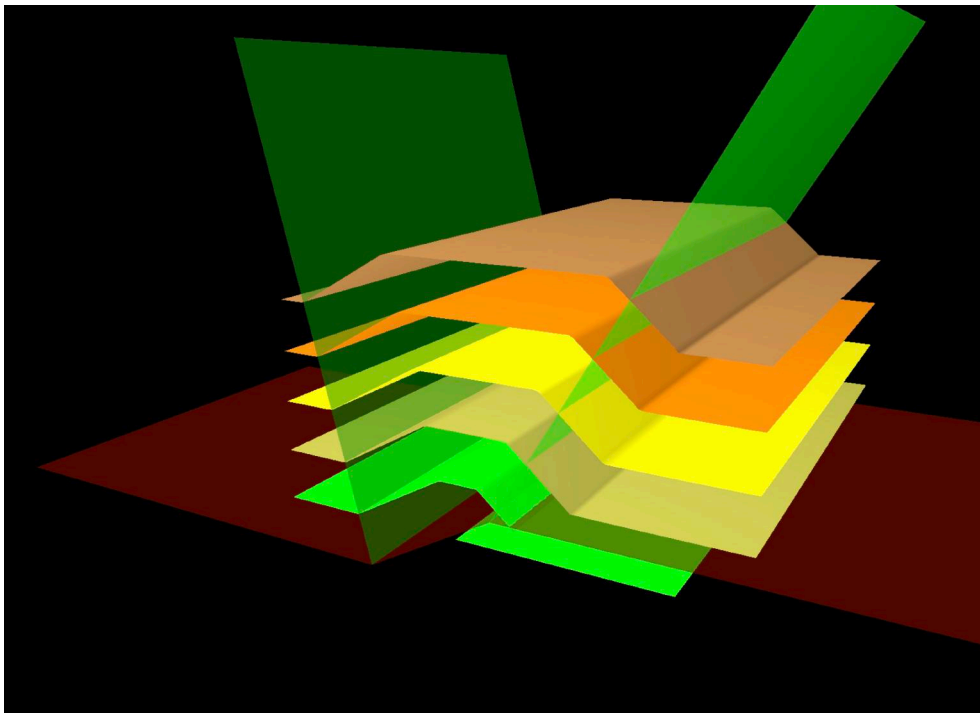

Figure 29. Fault-bend fold.
The P/S is very high (150), the slip is small (1), and there is only one slip increment. Also the ramp up from decollement option is selected. Run the model. You are creating the footwall ramp. The ramp should not dip more than 30°. Now modify the fault dip so that the fault is again parallel to the beds using the *Modify* panel (*Model* -> *Modify* or keyboard combination  $\hat{u} \text{ ⌘ M}$ , Figure 28b). Run the model about five times so that the tip line is to the right of the beds. Now that the flat-ramp-flat fault geometry has been created, modify the slip and the P/S so that the hanging wall moves above the fault, as in Figure 28c. Run the model, Figure 29 shows the resultant fault bend fold.